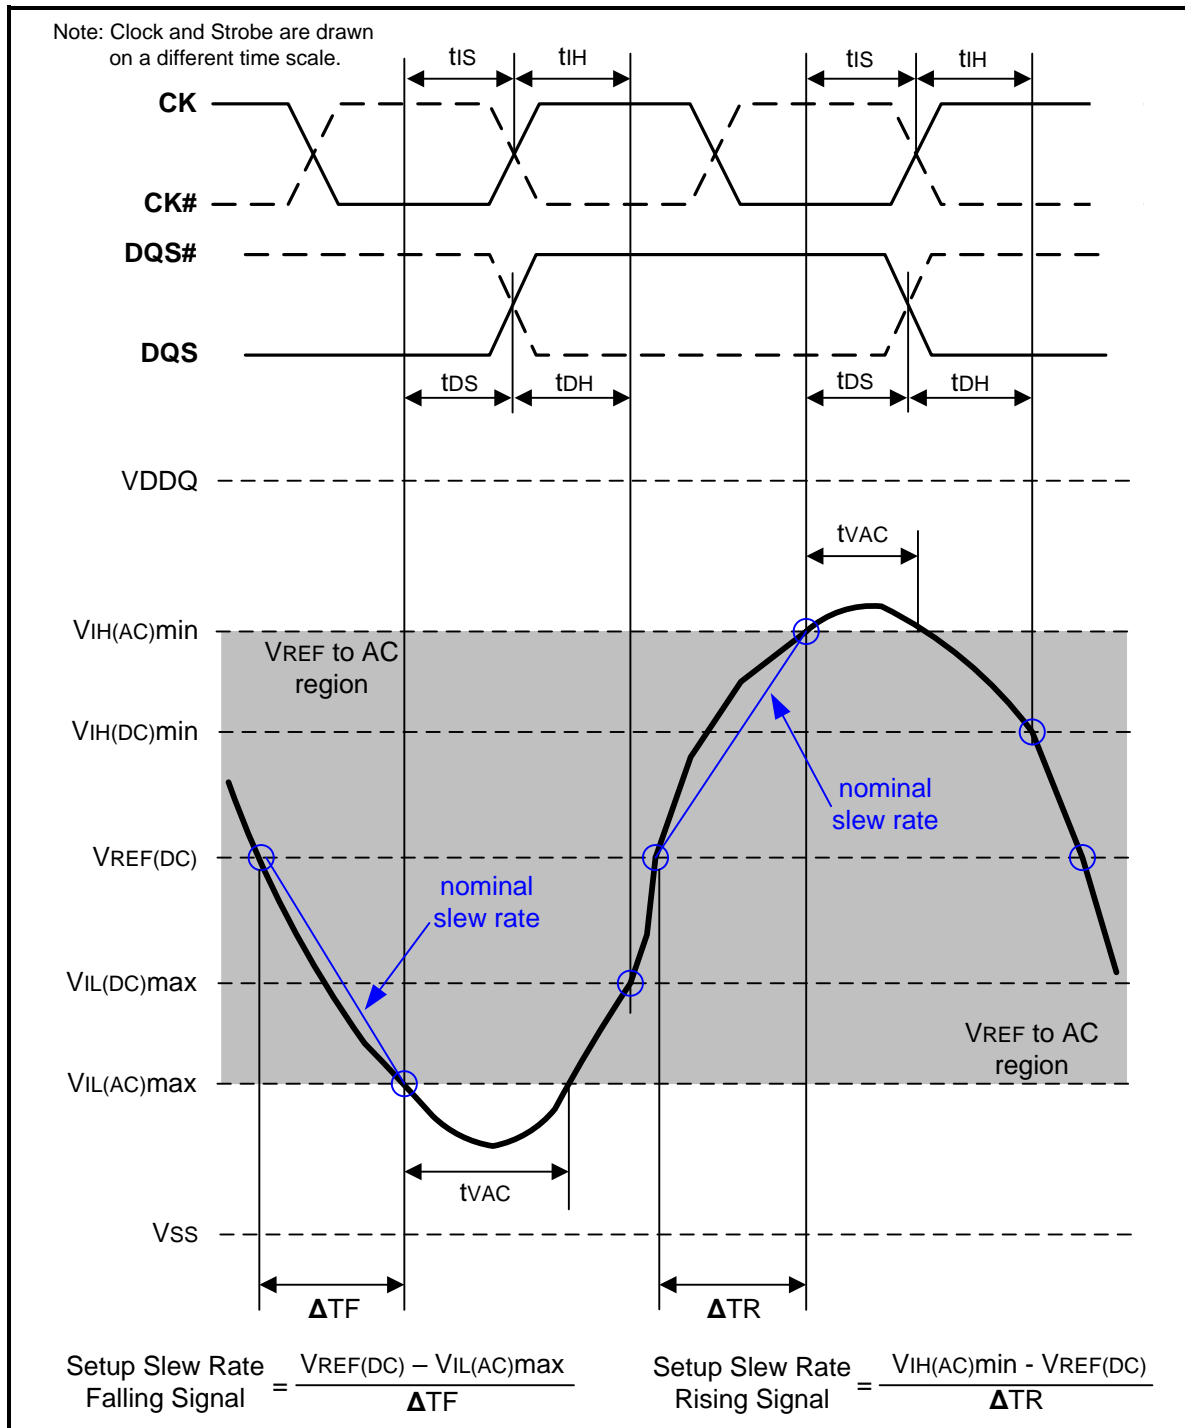
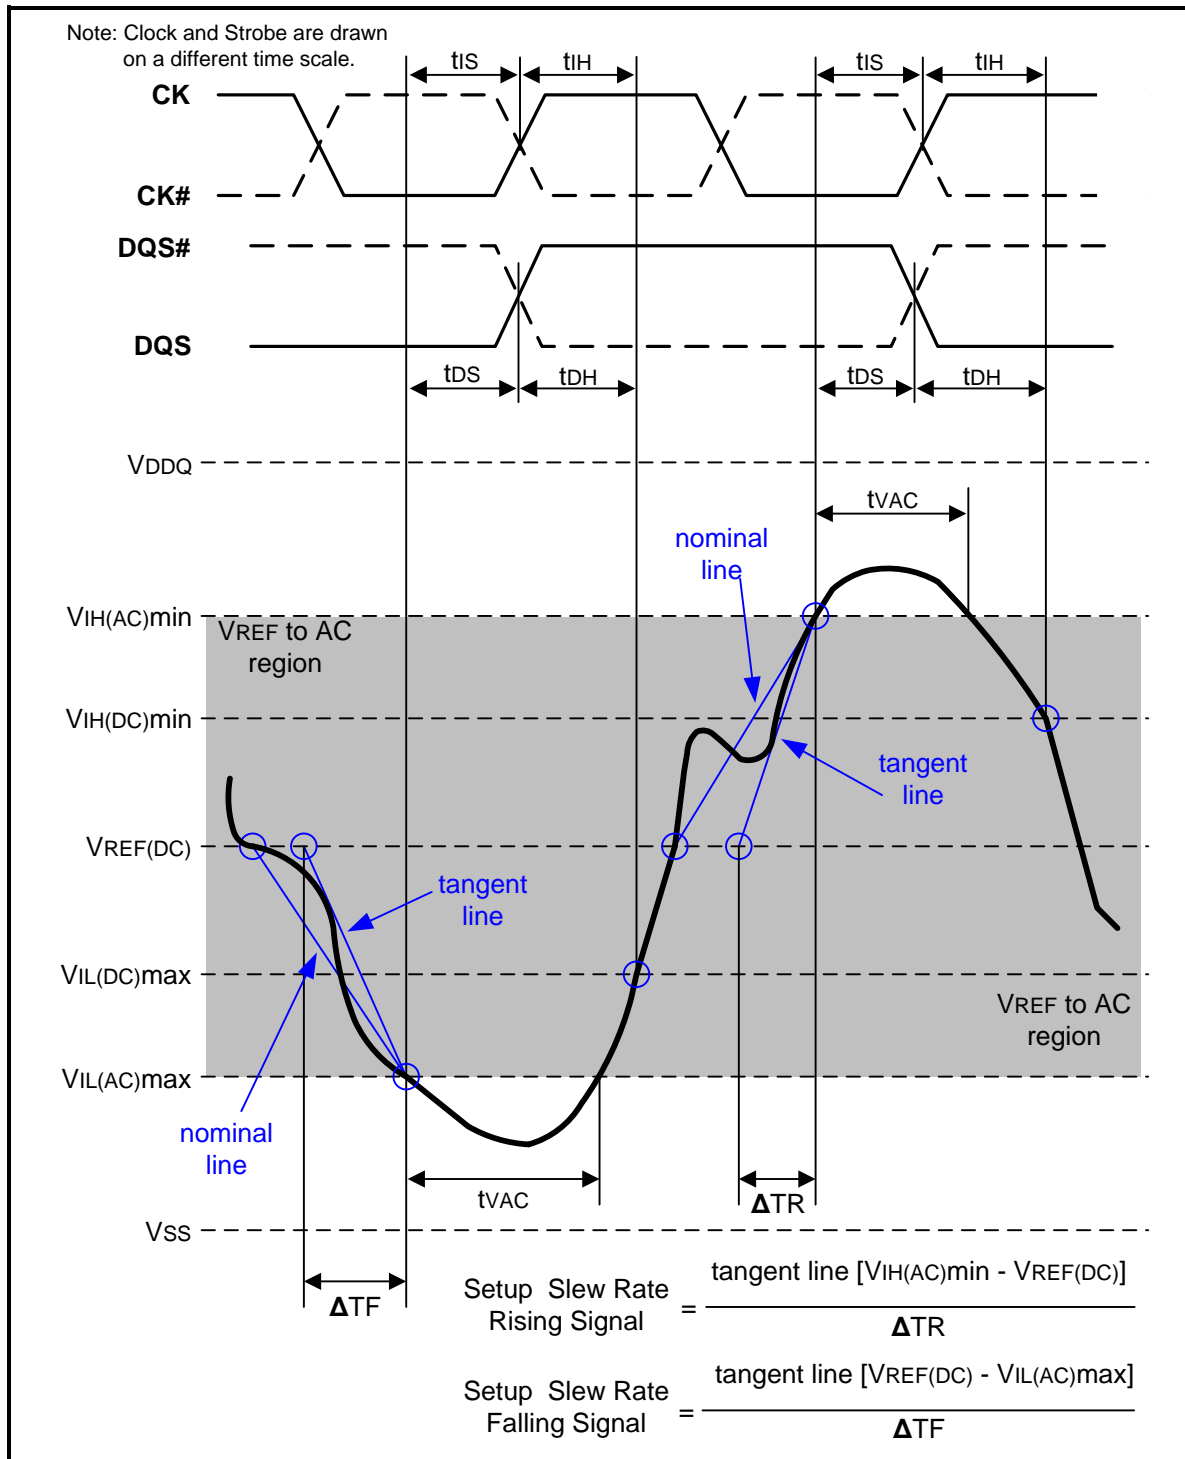

Figure 107 – Illustration of nominal slew rate and tvac for setup time tds (for DQ with respect to strobe) and tis (for ADD/CMD with respect to clock)
Figure 109 – Illustration of tangent line for setup time t_{DS} (for DQ with respect to strobe) and t_{IS} (for ADD/CMD with respect to clock)
Setup (t_{IS}) nominal slew rate for a rising signal is defined as the slew rate between the last crossing of $V_{REF(DC)}$ and the first crossing of $V_{IH(AC)min}$. Setup (t_{IS}) nominal slew rate for a falling signal is defined as the slew rate between the last crossing of $V_{REF(DC)}$ and the first crossing of $V_{IL(AC)max}$. If the actual signal is always earlier than the nominal slew rate line between shaded 'VREF(DC) to AC region', use nominal slew rate for derating value (see Figure 107). If the actual signal is later than the nominal slew rate line anywhere between shaded 'VREF(DC) to AC region', the slew rate of a tangent line to the actual signal from the AC level to $V_{REF(DC)}$ level is used for derating value (see Figure 109).
Setup (tDS) nominal slew rate for a rising signal is defined as the slew rate between the last crossing of VREF(DC) and the first crossing of VIH(AC)min. Setup (tDS) nominal slew rate for a falling signal is defined as the slew rate between the last crossing of VREF(DC) and the first crossing of VIL(AC)max (see Figure 107). If the actual signal is always earlier than the nominal slew rate line between shaded 'VREF(DC) to AC region', use nominal slew rate for derating value. If the actual signal is later than the nominal slew rate line anywhere between shaded 'VREF(DC) to AC region', the slew rate of a tangent line to the actual signal from the AC level to VREF(DC) level is used for derating value (see Figure 109).